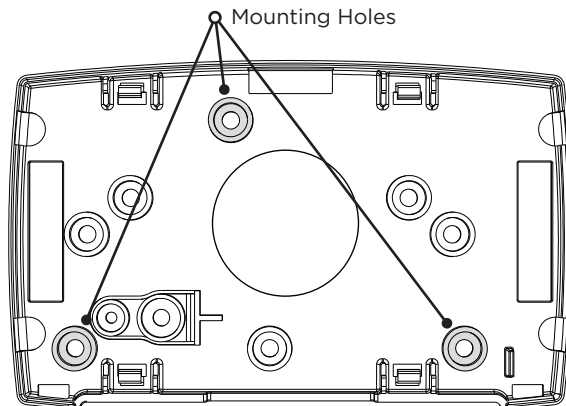

Figure 3: 738Zplus Housing with Mounting Holes
2. Use the supplied screws to secure the 738Zplus housing against a wall or flat surface. See Figure 3.